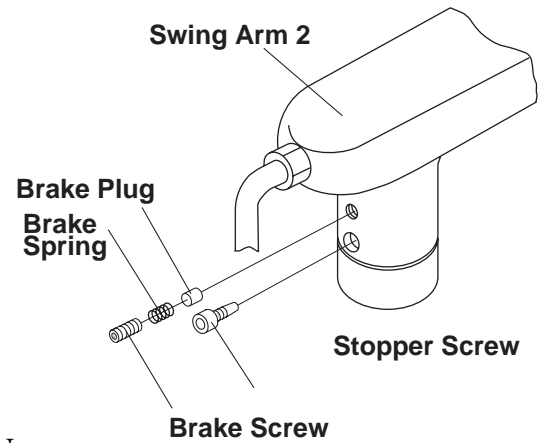

Fig.3-17 Setting Brake Screw and Stopper Screw on Swing Arm 2
2. Set the stopper screw into lower threaded hole of swing arm 2. (**Fig.3-17**)
3. Set the brake plug then brake spring and brake screw into the upper hole of swing arm 2. (**Fig.3-17**)